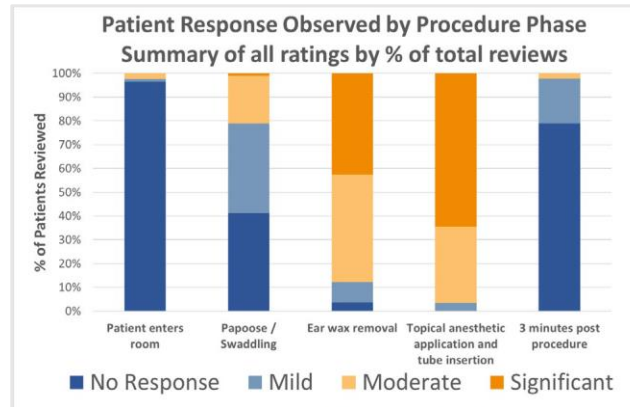

Figure 2 Patient Response Observed by Procedure Phase
- A committee of clinicians with ENT and/or pediatric specialty experience independently reviewed 30 procedure videos to evaluate how the child tolerated the procedure. At each stage of the procedure, the clinician reviewers rated the response of the child in the following categories: no response, mild, moderate, or significant. In all 30 cases, each of the reviewers deemed that the child tolerated the procedure acceptably. A bar graph tabulation of the committee video review is shown in Figure 2